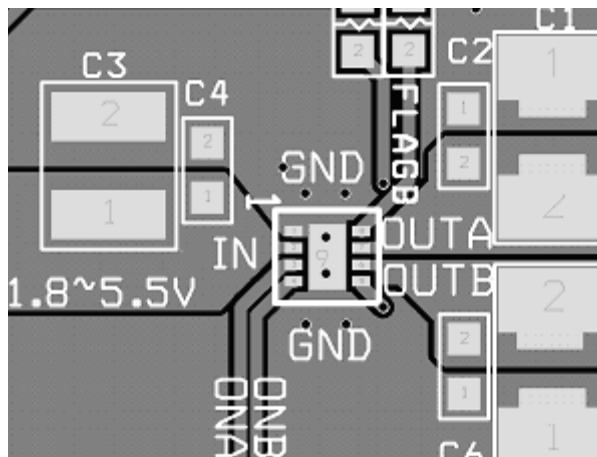

Figure 42. Proper Layout of Output and Ground Copper Area
3. The IN, OUTs, and GND pins dissipate most of the heat generated during a high load current condition. Figure 42 illustrates a proper layout for devices in MLP 3x3mm packages. IN, OUTs, and GND pins are connected to adequate copper so heat may be transferred as efficiently as possible out of the device. The low-power FLAGB and ON pin traces may be laid out diagonally from the device to maximize the area available to the ground pad. Placing the input and output capacitors as close to the device as possible also contributes to heat dissipation, particularly during high load currents.